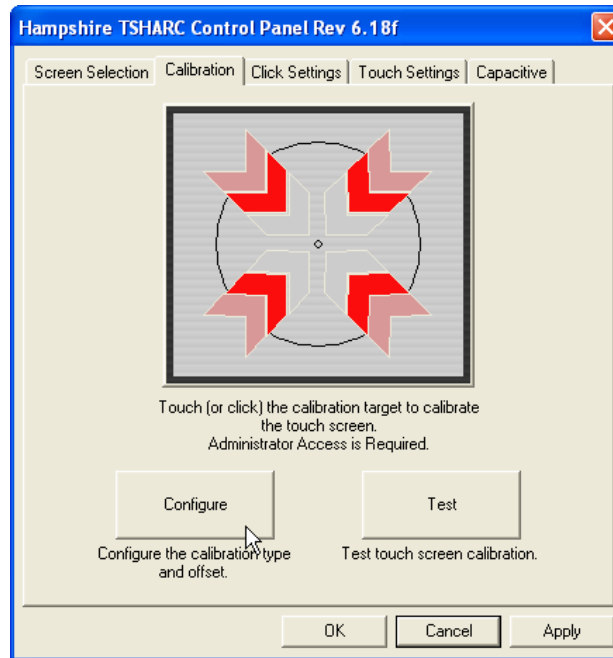

Figure 36: Calibration Target
1. Click/touch the calibration target seen in Figure 36 to begin calibration routine.